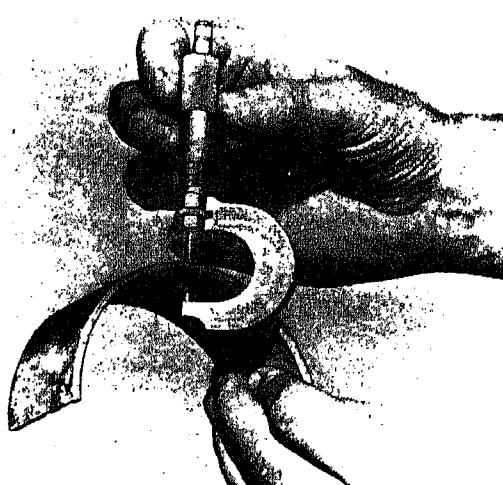

Fig. 1-5-1. Gauging bearing shell
1. Gauge shell with ball point micrometer, dial indicator thickness gauge, or comparator, Fig. 1-5-1.